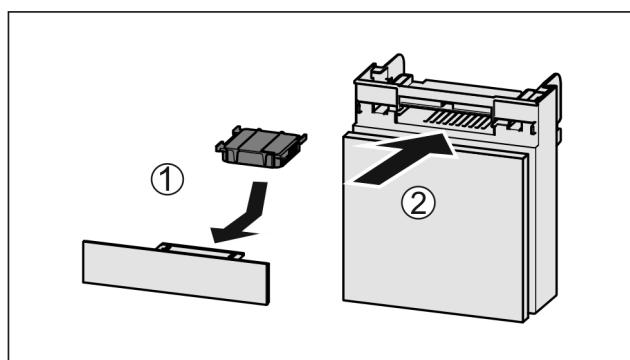

Fig. 38
- ▶ Insert the carbon filter as shown in the diagram Fig. 38 (1).
- ▶ Push the compartment in Fig. 38 (2).